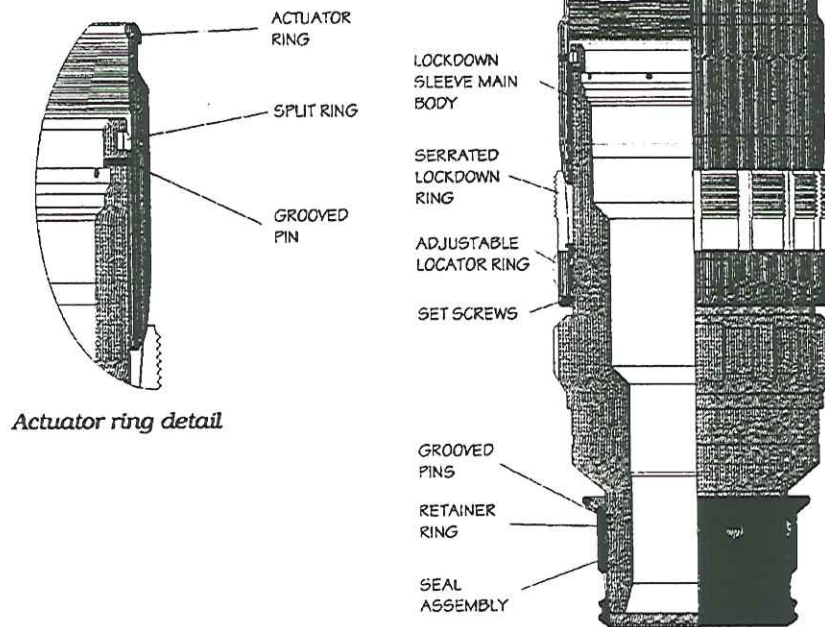
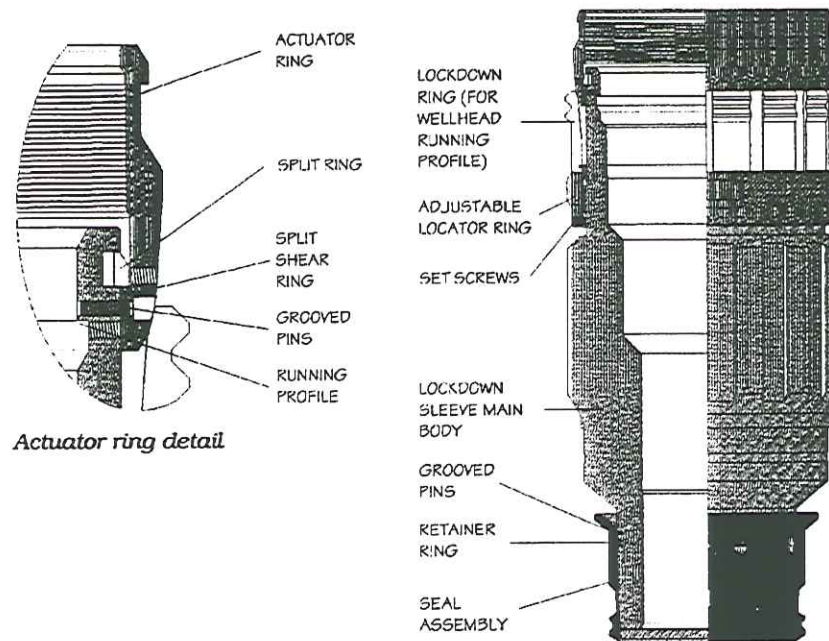

Figure 1a. Typical Lockdown Sleeve for Wellhead deep bore lockdown
Figure 1b. Typical Lockdown Sleeve for Wellhead Housing running profile
1. Refer to **Figure 1a** and **Figure 1b** for identification of the Lockdown Sleeve components. Record the part number, serial number, and set number of the Lockdown Sleeve for the permanent well file.